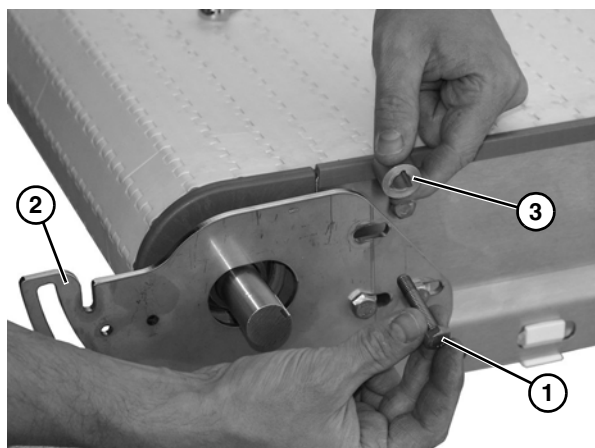

Figure 7
4. Insert three M6x20 bolts (**Figure 7, item 1**) through transfer plate (**Figure 7, item 2**), and install spacer (**Figure 7, item 3**) for each bolt (between transfer plate and conveyor).